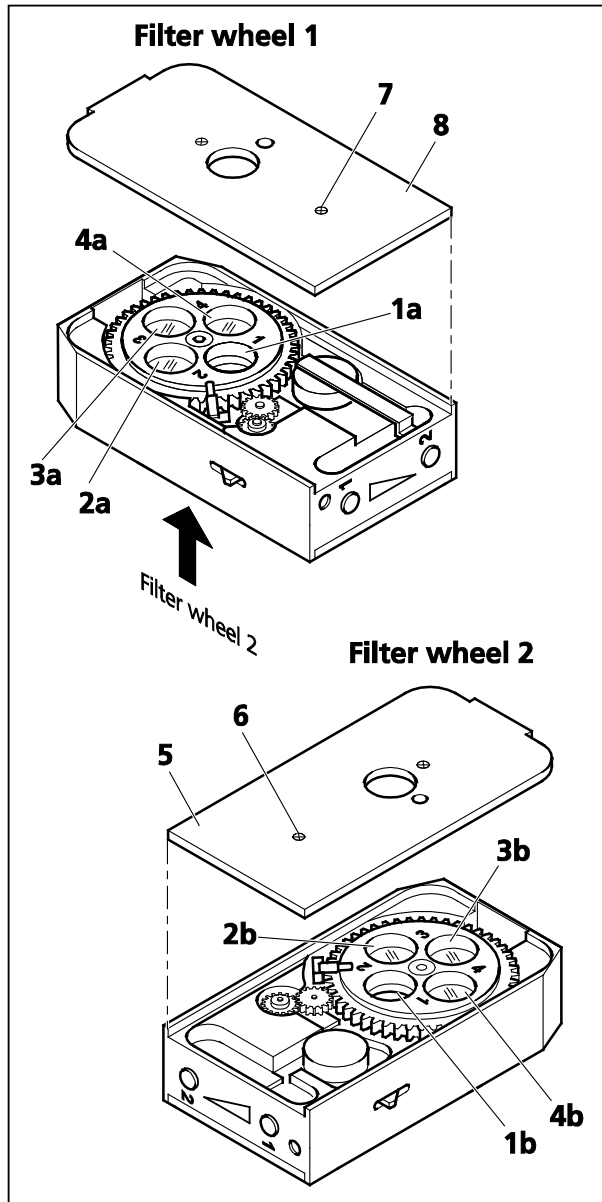

Fig. 35 Equipping double filter wheel, motorized (only for 428301-9901-000)
The filter mounts are labeled with the corresponding position numbers 1 to 4 (Fig. 35/**1a** to **4a** and **1b** to **4b**).
- Loosen both screws (Fig. 35/**6** and **7**) and remove cover plate (Fig. 35/**5** and **6**).
Insert the following filters in filter wheel 1 (428301-9901-000; Fig. 35):